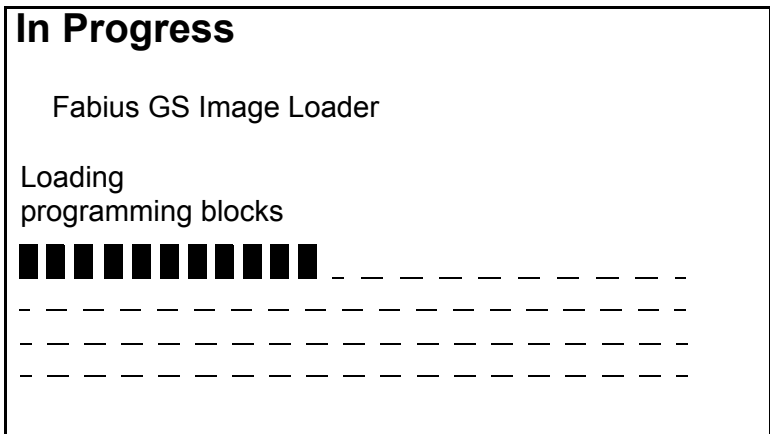
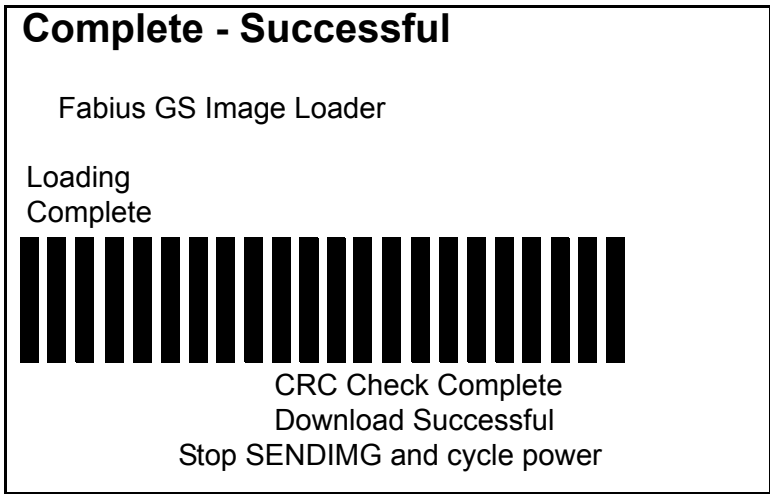
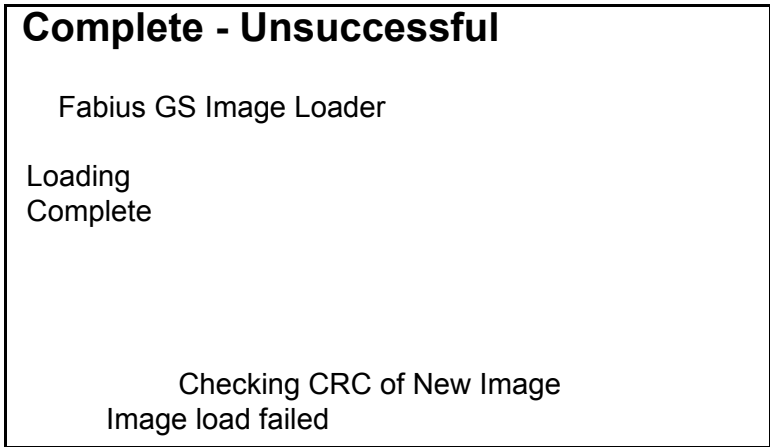

FIGURE 2. Image Loader Screen
FIGURE 3. Image Loader Successful
FIGURE 4. Image Loader Unsuccessful
10. As the software is downloading, programming blocks will appear on the machine display. See FIGURE 2. When the download is complete and successful, the display will appear as shown in FIGURE 3. If the download is unsuccessful, the display will appear as shown in FIGURE 4.